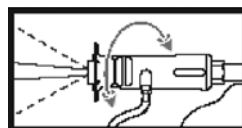

Figure 6
- Twist nozzle cover to adjust spray pattern from jet to wide fan spray (Figure 6).